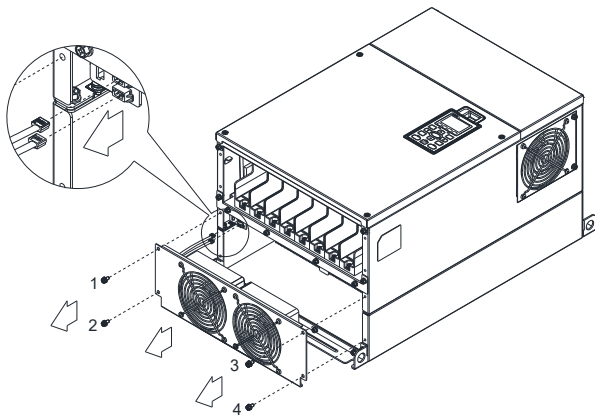

Figure 1
1. Loosen screw 1–4 (figure 1) and disconnect fan power and pull out the fan. (As shown in the enlarged picture 1) Screw1–4 Torque: 24–26 kg-cm / [20.8–22.6 lb-in.] / [2.4–2.5 Nm]